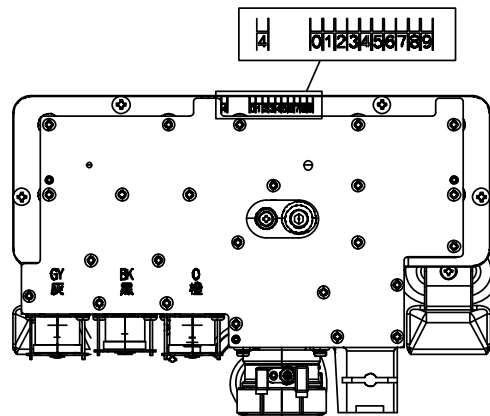

FIGURE 5
- 9) Insert the new manifold plate supplied with the conversion kit. The orifice size of the gas manifold plate should be marked as follows (check Figure 5):